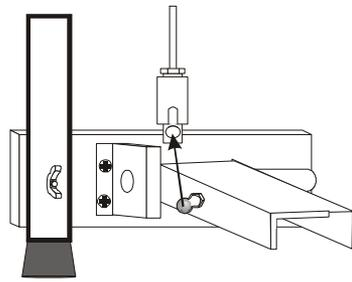
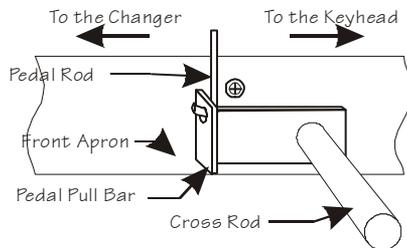

Figure 1
Figure 2
Remove the leg & pedal bar pouch (containing the legs & rods) & screw the legs snugly into the end-plates. **Note:** the FRONT legs are easily distinguished from the back legs by the HOLES near the rubber leg TIPS. **Note:** the #4 label on 1 of the front legs; insert this leg into the endplate hole labeled #4. Next, remove the pedal bar from the bag. With the pedal surfaces hanging down & closer to your right hand, place the pedal bar on each of the 2 front legs by inserting the screws into the leg holes & attach the wing nuts. (See Figure 1, Page 2).
Now, look at the pedal rods. The number on the bottom of the quick-disconnect end shows which pedal they are adjusted for. Pedal number one (1) is farthest from the changer, or your extreme right. Hook the rod into the pedal rod pull hole (See Figure 2, Page 2) so that the hook faces toward the left end (changer) of the guitar. To attach the pedal rod disconnect to the pedal (See Figure 1, Page 2): first: depress the spring-loaded outer shell of the disconnect. Next: slide the pedal ball-joint into the exposed slot *and* release the outer shell. This will lock the ball-joint into place. Repeat this procedure for each of the other rods. Raise the knee levers to their respective vertical positions.
1. **Pedal Height:** The height of the pedals from the floor can be adjusted by loosening the lock nut on the pull rod at the ball-joint connection. Once the lock nut has been loosened, the ball-joint can be screwed in or out as desired. The lock nut should then be re-tightened. (*See Figure 1, Page 2.*)